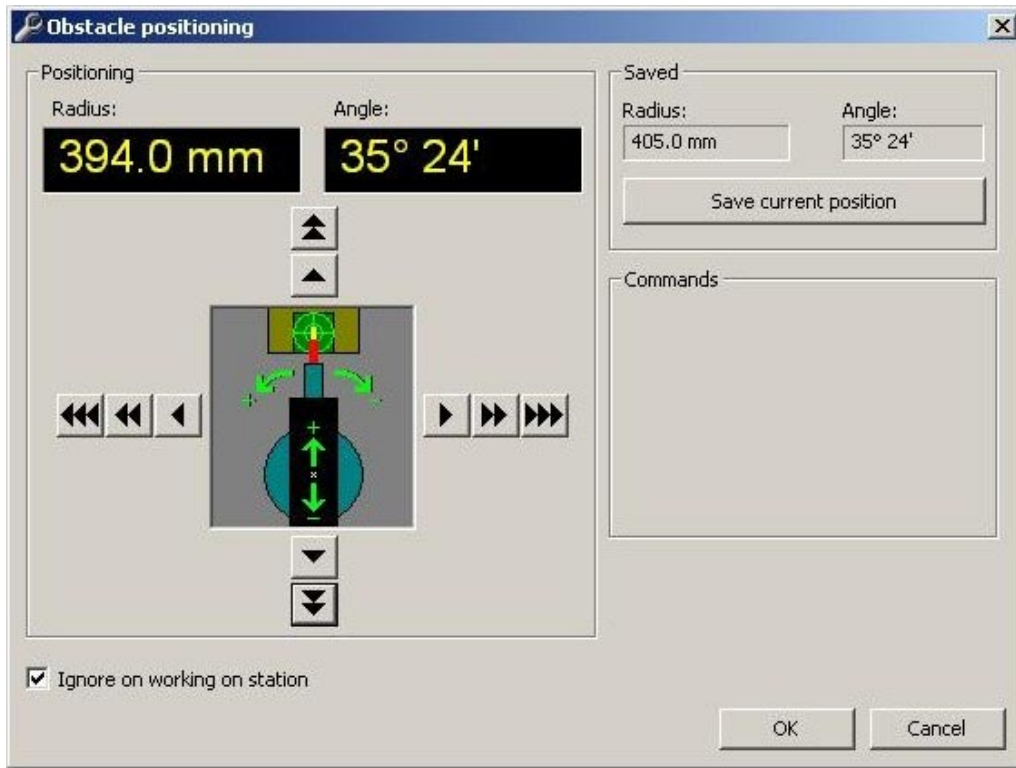

Figure 39
e. Adjust the default 360mm radius to 394mm radius (Figure 39). Be sure angle value is set to previous value (as it was in Step 21). Save the current position and select "O.K."